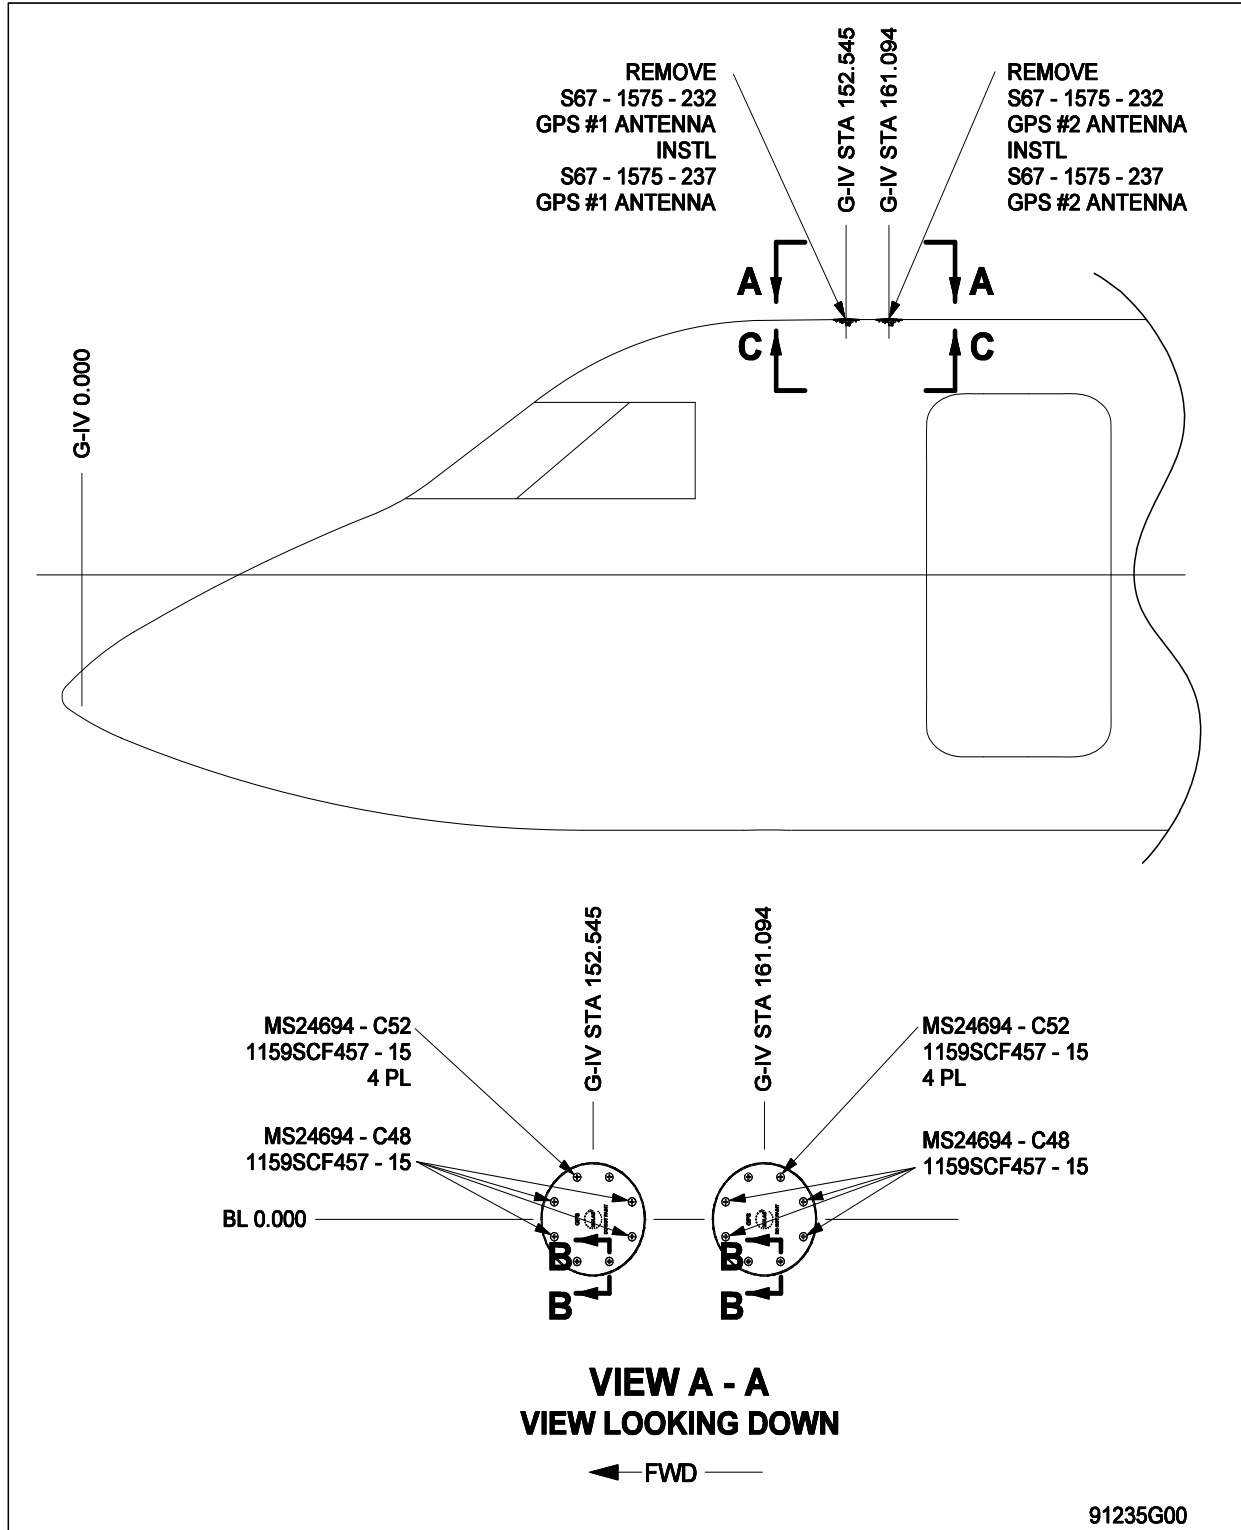

FIGURE 1 (4001 – 4193)
4. Gain access to GPS antennas located in the over head area forward of the main entry door (MED) on aircraft serial numbers 4001 - 4193. Refer to G450 AMM, Chapter 34 and Figure 1.
5. Remove existing GPS antennas, PN S67-1575-232. Hardware may be retained and reused or replaced. Refer to Figure 1.
6. Install new GPS antennas, PN S67-1575-237, and gaskets, PN GAG810GG1-9, using screws, PN MS24694-C48 and MS24694-C52. Orient antennas so the right angle connectors point towards the rear of the aircraft. Ensure appropriate hardware is utilized in correct location. Refer to Figures 1 and 2.